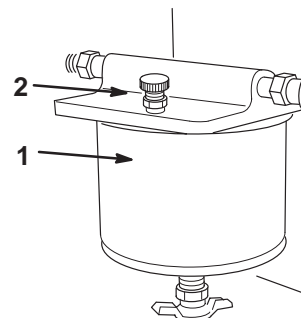

Figure 30
3. Open the bleed screw on top of the fuel filter to fill the bowl with fuel (Fig. 30).